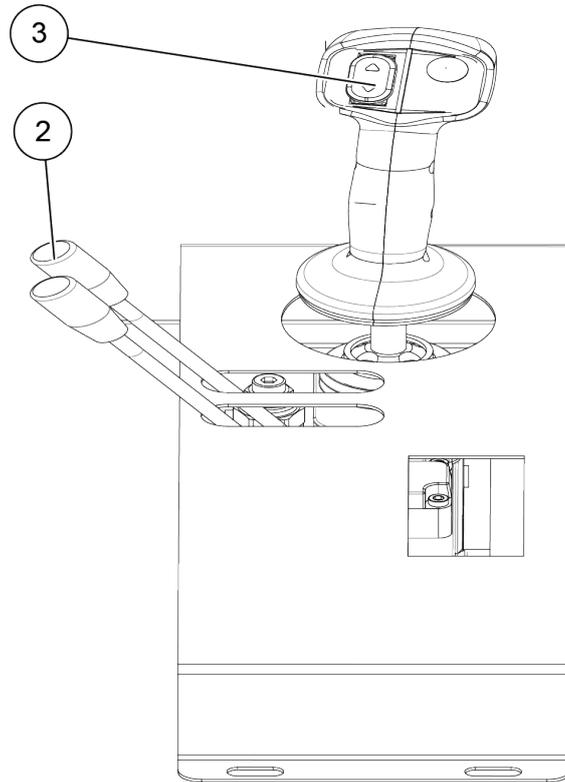

Figure 5-42 Console
Step 3: Pull backward with quick change cylinder switch (2), and set the quick change cylinder (4) to retracted state, as shown in Figure 5-42 and 5-43;